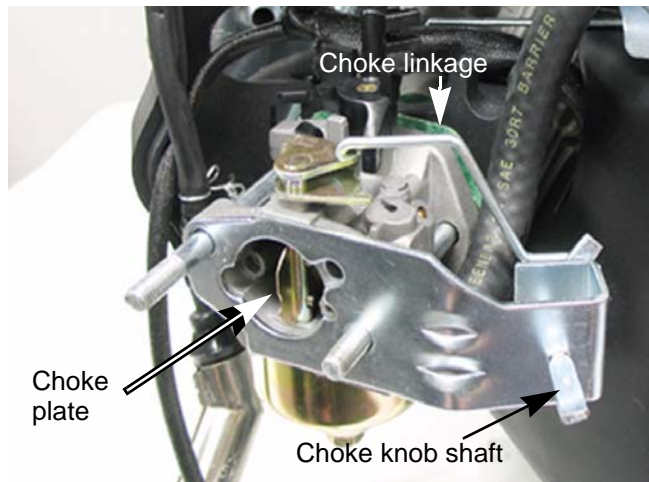

Figure 4.11
2. Rotate the choke knob shaft to verify full choke movement. See Figure 4.11.